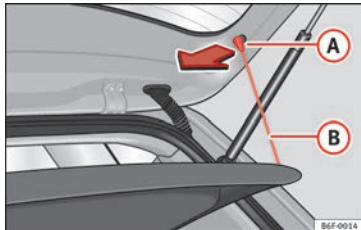

Fig. 163 In the luggage compartment: removing and installing the rear shelf.
- Detach the cord loops »» **Fig. 163** **(B)** from their hooks **(A)**.
- Hook the loops »» **Fig. 163** **(B)** to the rear lid.